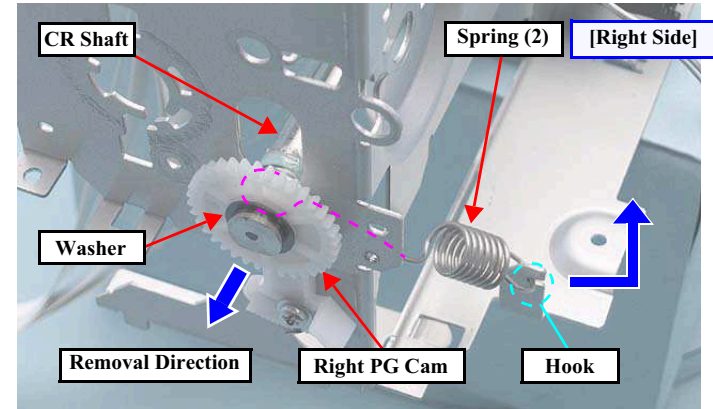

Figure 4-89. Removing the CR unit (2)
- When attaching the spring (2) and the washer for the Right PG Cam to the CR Shaft, make sure to attach them to the positioning slits on the CR Shaft. (See Fig.4-89 (p.86))